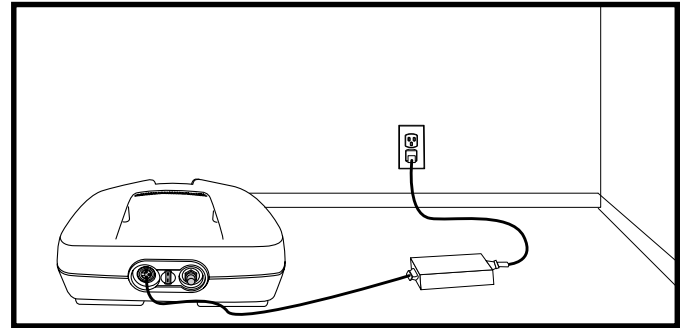

Figure 15. Charging The Batteries (Battery Pack Removed)
1. Position your Travel Scooter or battery pack close to a standard electrical outlet. **See figure 15.**